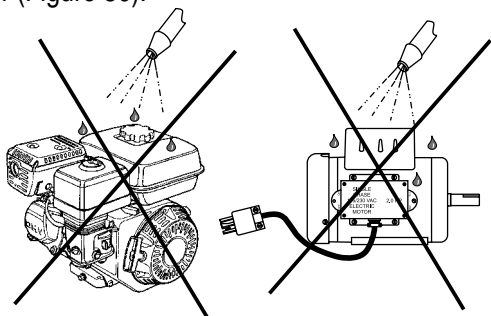

Figure 36. No Spraying of Water
6. **NEVER!** pour or spray water over the engine or electric motor (Figure 36).